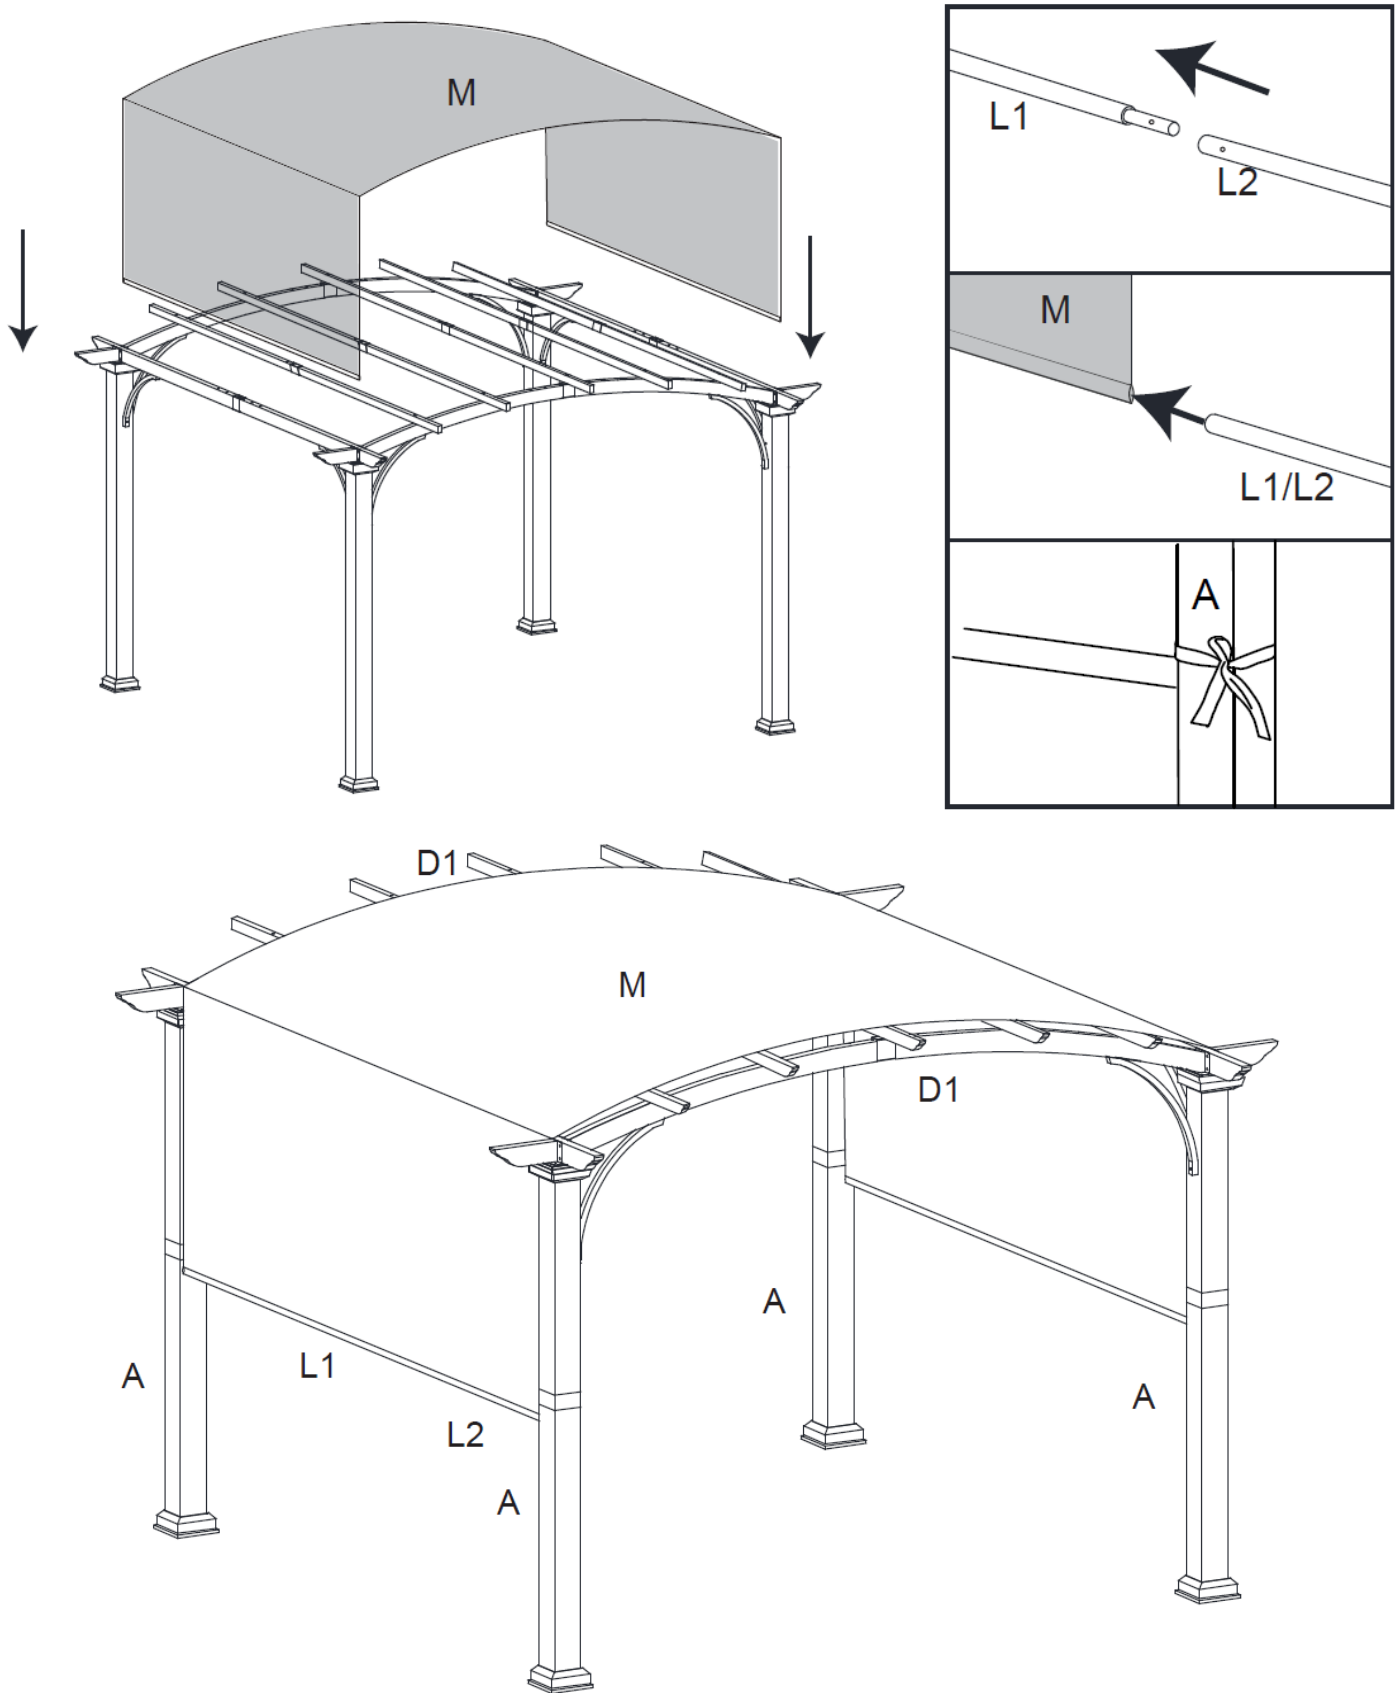

Figure 8
Step 8: Place the Canopy (M) on the top of the pergola. Attach the Short Canopy Support Bar (L1) to the Long Canopy Support Bar (L2). Insert the assembled tubes (L1/L2) into the hemline of the canopy. Secure the canopy to the Corner Posts with the Tie Strap. See Figure 8.